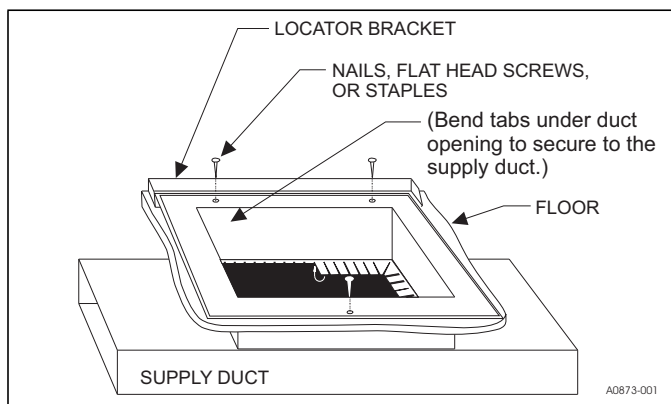

FIGURE 8: Duct Connector Tab Attachment (7990 Series)
3. Place locating bracket (supplied with the duct connector) to the rear of the floor area for the furnace. See Figure 8.